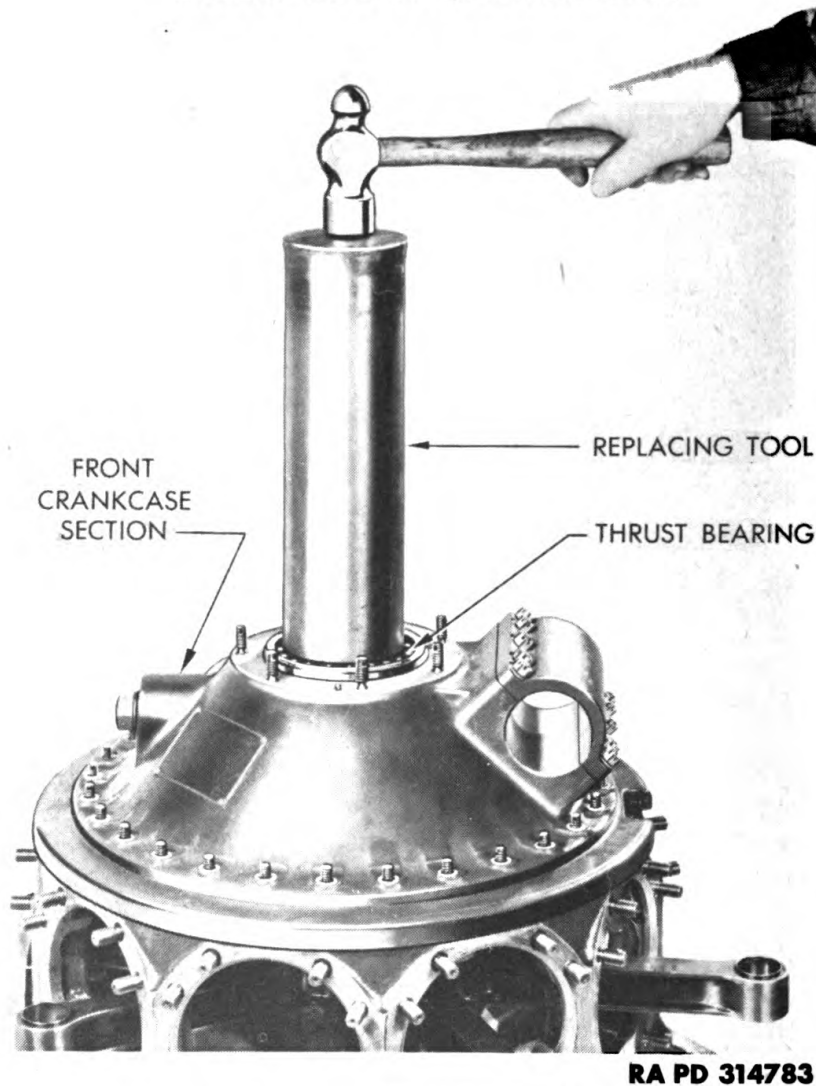
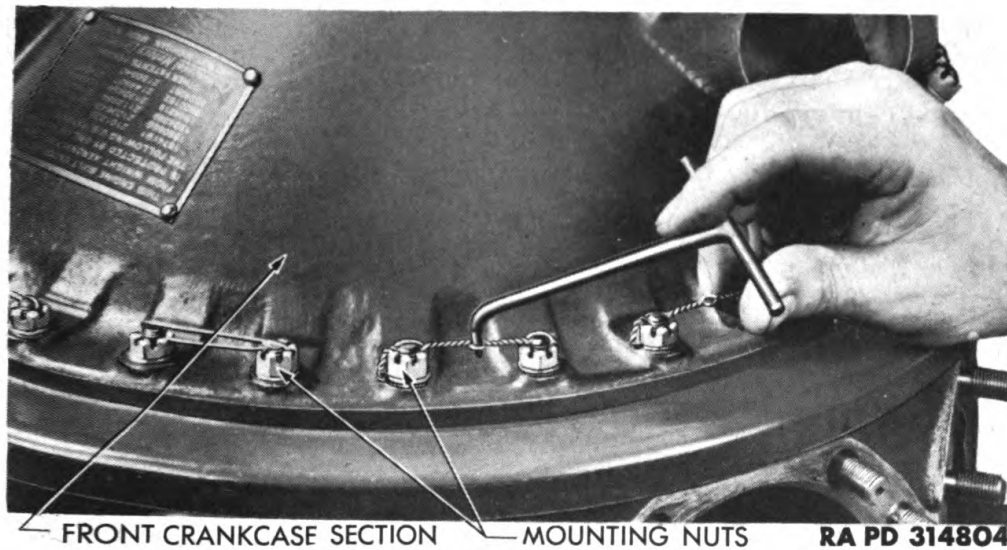

Figure 225 — Installing Front Thrust Bearing
Figure 226 – Securing Front Crankcase Section
l. Install Front Thrust Bearing. With markings on front thrust bearing facing up, place bearing over crankshaft. Using driver, drive bearing into recess in front crankcase section (fig. 225). Install flat washers over main crankcase section mounting studs, and install mounting nuts. Tighten mounting nuts securely and evenly, and secure with lock wire. Tighten lock wire by method shown in figure 226. Install front cover section laminated shim over front crankcase section mounting studs and dowel (fig. 227). Place front cover in position over studs and against shim.